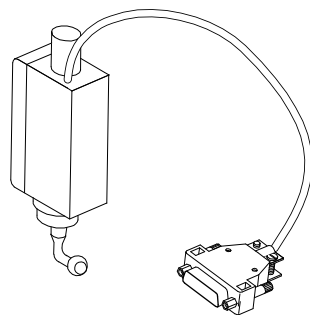

Fig. 7.3
**Speed control unit** SWG2 (Fig.7.3)